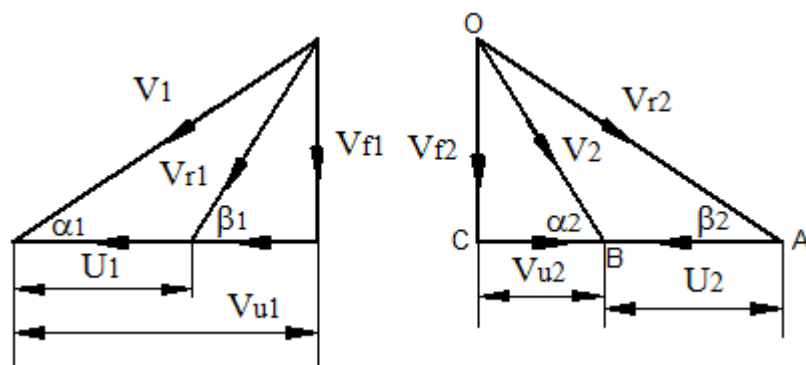

Fig. 3.3 Generalised velocity diagrams.
**Answer:** Let us consider velocity diagram for generalised rotor as shown in figure 3.3.